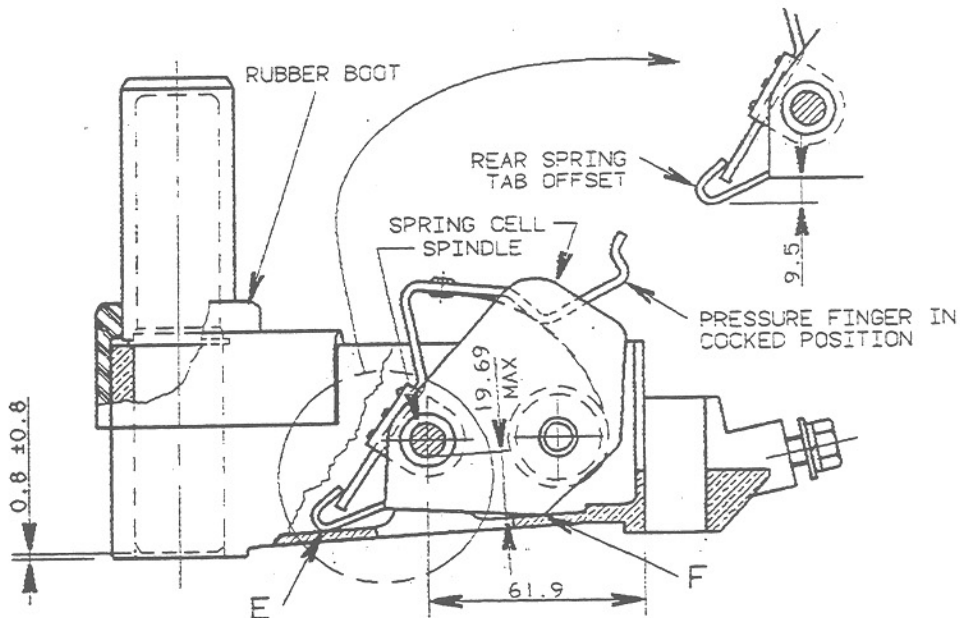

Fig. 7 - Constant Pressure Brush Holder
When inspection indicates it is necessary to remove the spring cell assemblies from a brush holder, Fig. 7, perform the following:
2. Check rear spring tab to ensure that offset of tab is 9.5 mm (3/8"), Fig. 7. Bend rear spring tab as required. Place brush holder fingers in "cocked" position.
8. Ensure each spring cell is tight in the brush holder. If cells are properly installed, the cells will be held firmly at contact points "E" and "F" of Fig. 7. If required, adjust rear spring tab so that the cells are held firmly at points "E" and "F" when the spindle is driven in place. Points "E" and "F" must have definite contact with holder.